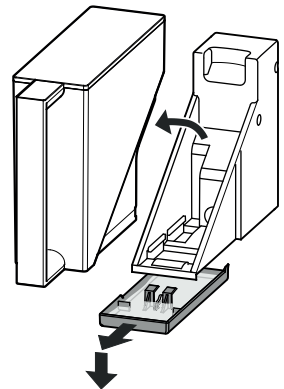

Figure 25
- To empty the water collecting tray: Remove the water tank. Carefully disengage the tray forwards and then lower for removal **Figure 25**.